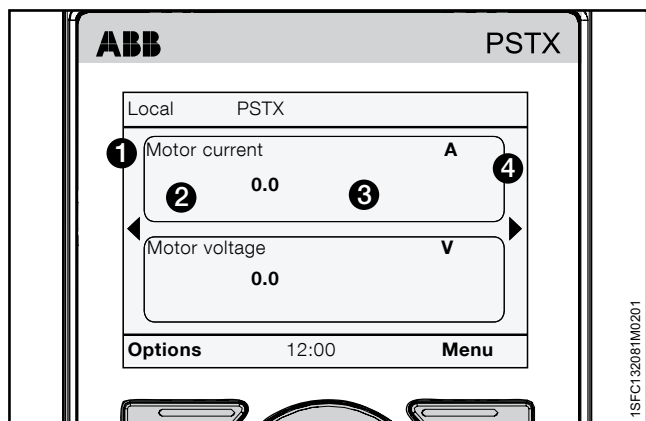

Figure 6.20
Select the display style for the home view. The selected display style is shown by ❷ in Figure 6.20.
Push "Save" to save the value. Decimal numbers are shown in ❸ in Figure 6.20.
Push  "Save" to save the display name. Display name is shown by ❶ in Figure 6.20.
Push  "Save" to save the value. Value is shown by ❸ in Figure 6.20.
Display signal min as - Push  "Edit" to select the scaled minimum value in the Home view. Use the Navigation keys to change the value, Push  "Save" to save the value. See ❸ in Figure 6.20.
Display signal max as - Push  "Edit" to select the scaled maximum value to show in the Home view. Use the Navigation keys to change the value, Push  "Save" to save the value. See ❸ in Figure 6.20.
to save the Home view unit name. See ❹ in Figure 6.20.